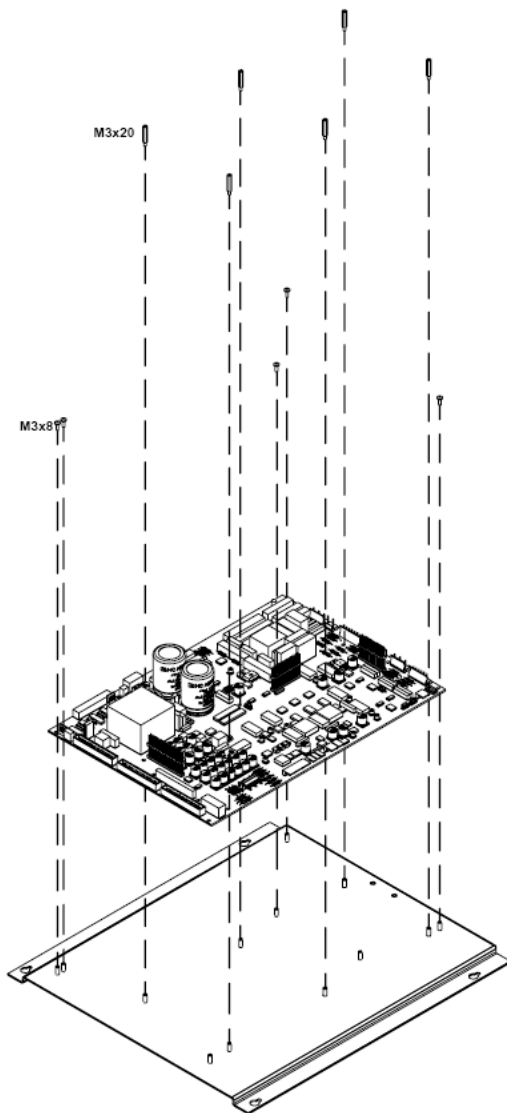

Figure 6.6 (b). Disassembly of the Power Board.
- 4) Connect the power board wiring. (figure 6.6(a)).